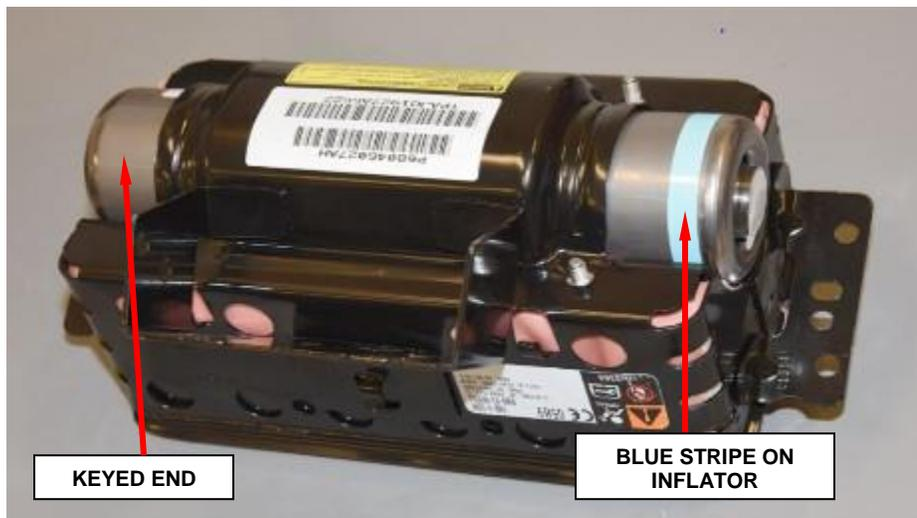

Figure 56 – Insert Inflator (Shown with Cushion Installed)
- k. Slide **new** inflator into housing. The keyed end is inserted first, therefore the blue stripe on the inflator will be located at the open end, as shown (Figure 56).